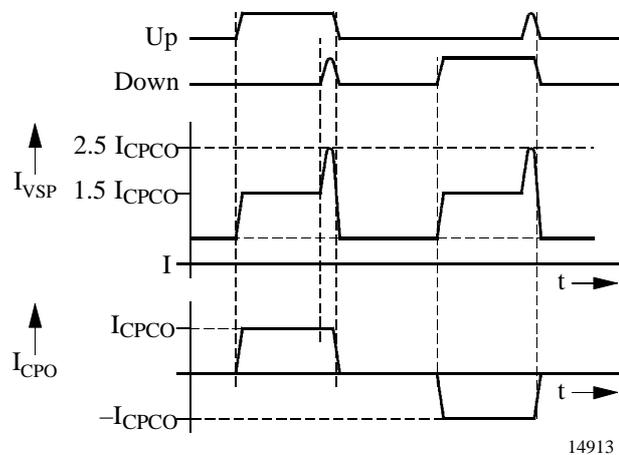
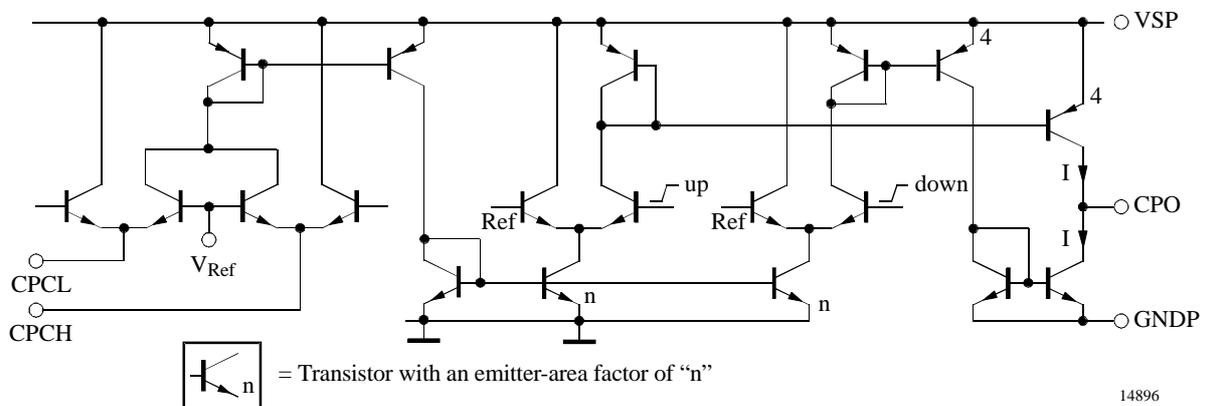

Figure 3. Supply current of the charge pump
Figure 6. Charge pump
- 1) Mean value, measured with  $F_{ND} = 151$  MHz,  $F_{RD} = 150$  MHz, current vs. time, figure 3
Due to the pulsed operation of the charge pump, the current into the charge-pump supply Pin VSP is not constant. Depending on I (see figure 6) and the phase difference at the phase-detector inputs, the current  $I_{VSP}$  over time varies. Basically, the total current is the sum of the quiescent current, the charge-/discharge current, and – after each phase comparison cycle – a current spike (see figure 3).